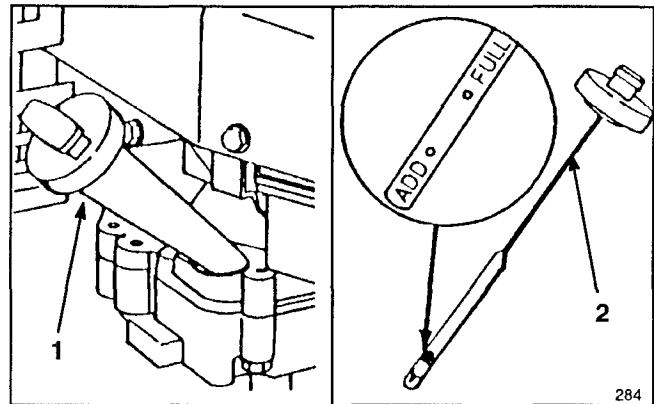

Figure 5
## FILL CRANKCASE WITH OIL (Fig. 5)
Fill crankcase with SAE 30 oil until oil level reaches FULL mark on dipstick as shown in Figure 5. The maximum crankcase capacity is 25 ounces (0.75 liters) of oil. Use of multi-viscosity oils (10W30, etc.) above 40° F (4° C) will result in high oil consumption and possible engine damage. Use any high quality detergent oil having the American Petroleum Institute (API) "service classification"—SE, SF or SG.
1. CHECK OIL LEVEL—Maintain oil level between ADD and FULL marks as shown on dipstick (Fig. 5).